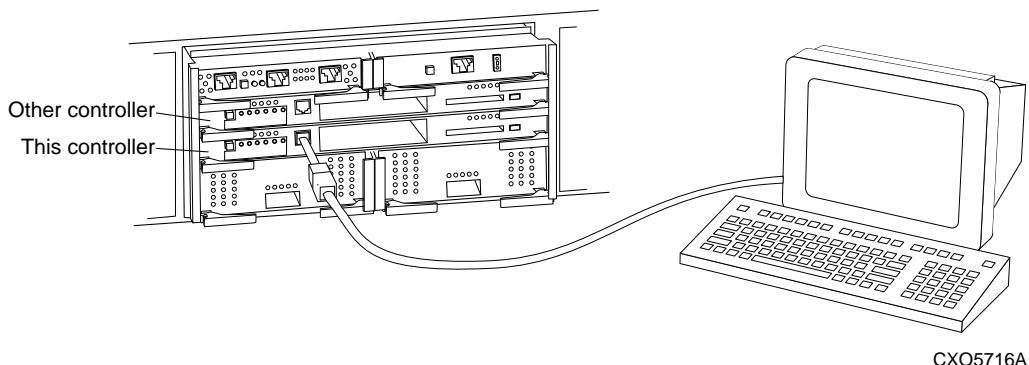

Figure 2-6. "This Controller" and "Other Controller"
1. Turn off the PC or terminal and connect it to the controller as shown in Figure 2-6.
When you are entering CLI commands in a dual-redundant controller configuration, remember that the controller to which you're connected is this controller and the other controller is the "other controller" as shown in Figure 2-6.